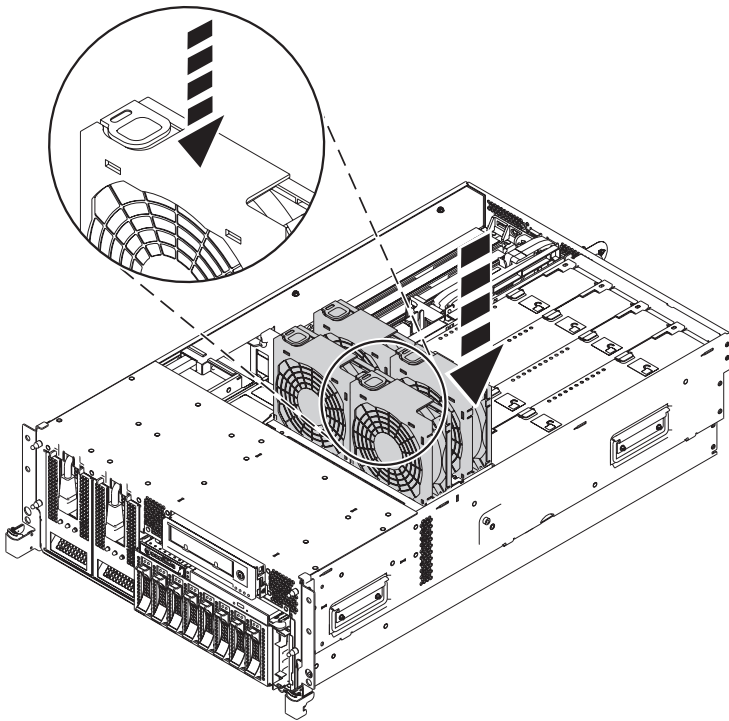

Figure 17. Installing the fans in the fan cage
- c. To install the fans, insert the fans into their locations in the fan cage, and push down on each fan until it locks into place, as shown in Figure 17.